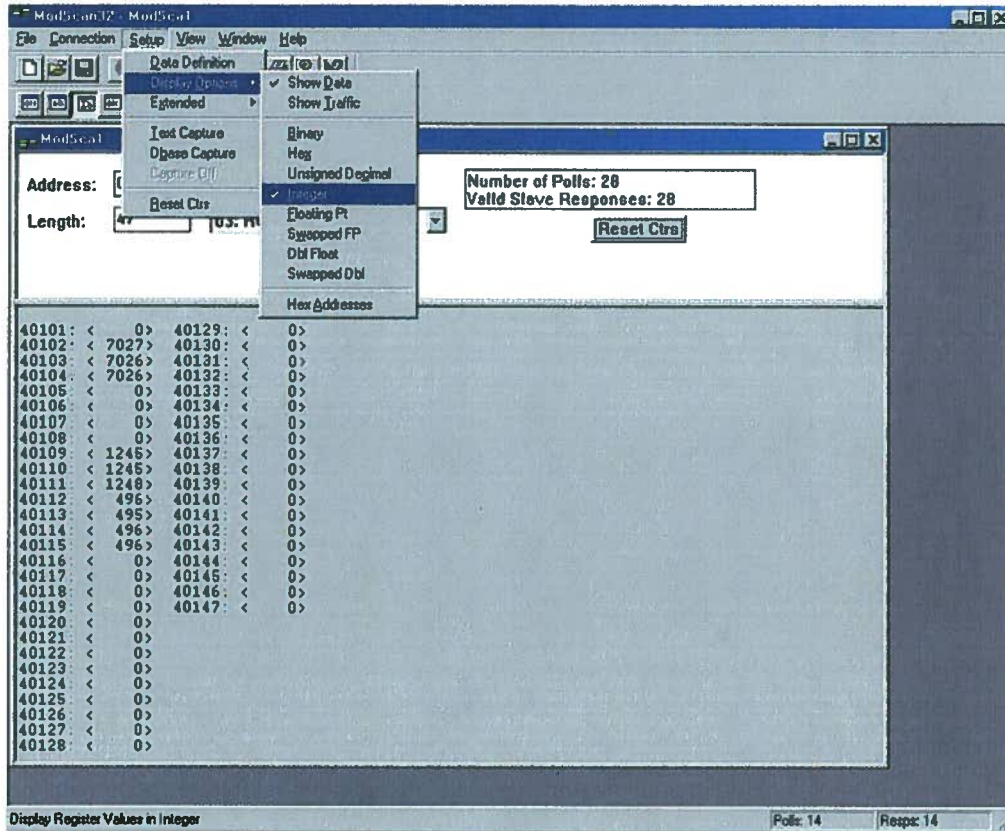

Figure 9
Figure 9 above shows the Raw\_Values for the measurand. These integer values must be multiplied by the Scaling\_Factors shown on the previous page either by hard coding the Scaling\_Factors or by reading the Scaling\_Factors and storing them in software.
**NOTE: Subtract 1 from the register numbers shown in Figure 9 to obtain the corresponding register numbers given in the manual. The software that is being illustrated starts with 101 rather than 100.**